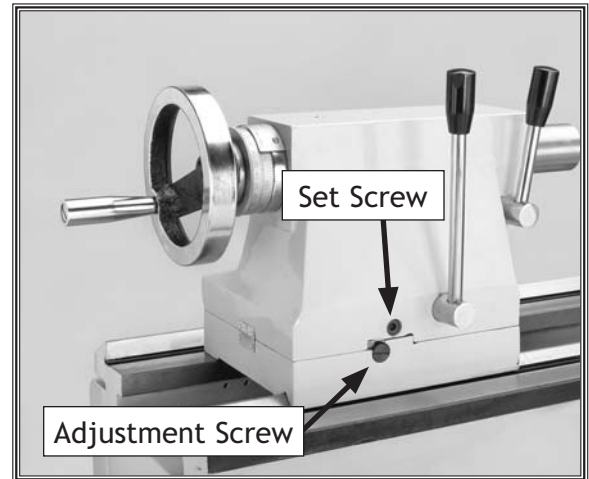

Figure 36. Tailstock off-set adjustments.
2. Loosen the set screw located just above the adjustment screw (see **Figure 36**).